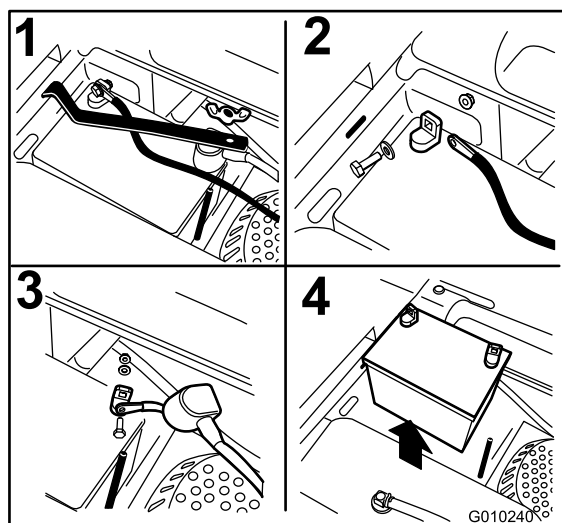

Figure 53
3. Remove the wing nut securing the battery clamp (Figure 53).
4. Remove the clamp (Figure 53).
5. First disconnect the negative battery cable (black) from the negative (-)(black) battery terminal (Figure 53).
6. Slide the red terminal boot off the positive (red) battery terminal and remove the positive (+)(red) battery cable (Figure 53).
1. Position battery in the tray with the terminal posts opposite from the fuel tank (Figure 53).
4. Secure the cables with 2 bolts, 2 washers, and 2 locknuts (Figure 53).
6. Install the clamp and secure it with the wing nut (Figure 53).